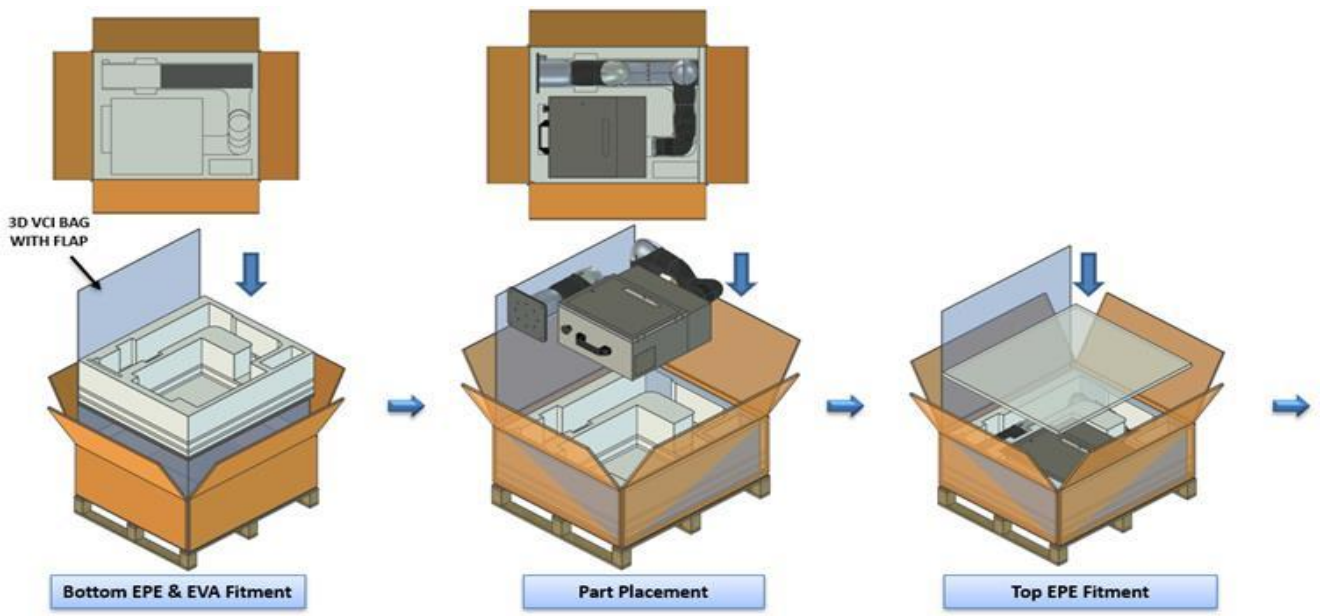

Figure 14: Packing Illustration
- Refer to *Figure 14: Packing* to understand the packing details